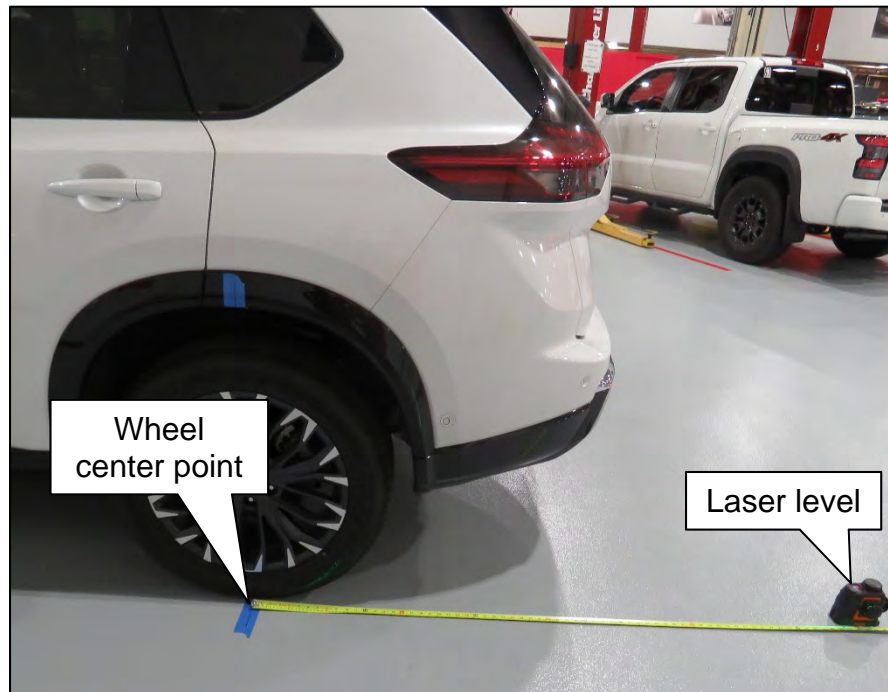

Figure 22
**IMPORTANT:** Steps 21 - 33 and the related figures show the driver (LH) side of the vehicle. The passenger (RH) side is similar. If the AVM Control Module was replaced, steps 21 - 33 must be performed for both the driver and passenger side cameras.
21. Place the laser level approximately 1500 mm (59 in.) behind the rear wheel (Figure 22), and then align the laser level so that the laser line is perfectly centered through the center points of both wheel and tire assemblies marked in step 19 on page 13.